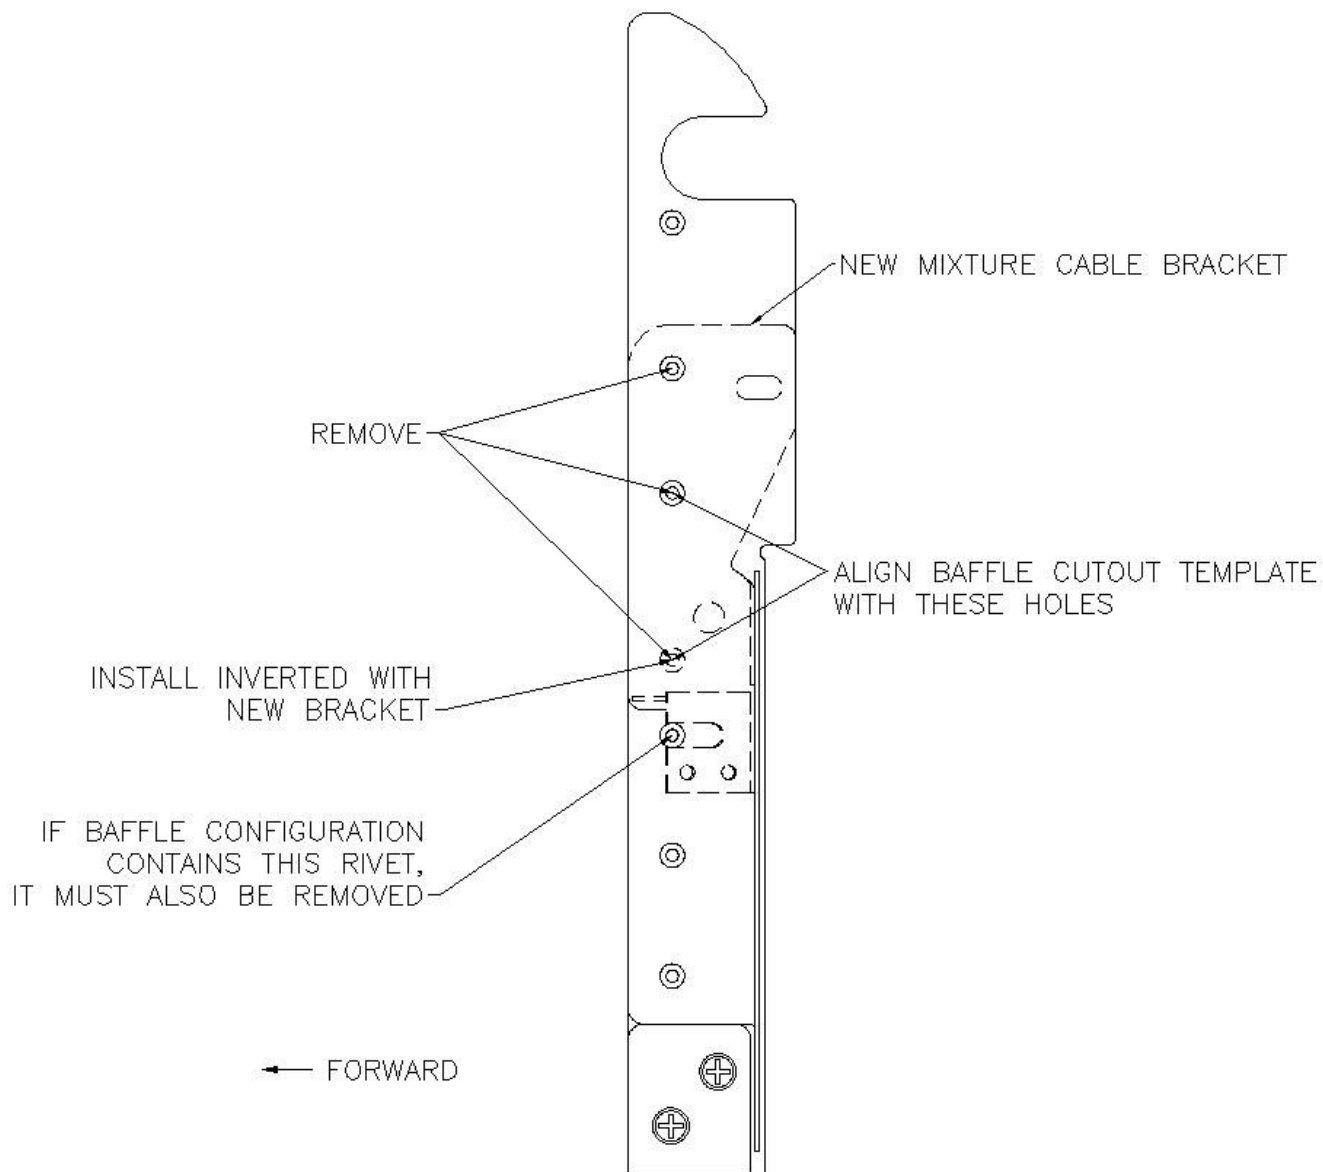

Figure 2: Left-Hand Baffles
- the apron, in addition to the baffle rivets indicated in Figure 2.
- 10.11** Fasten the new mixture cable bracket to the apron baffle assembly using three BSPQ rivets of the appropriate length. Orient the bracket as shown by the dashed line in Figure 2. Align the slot and the large hole in the bracket with the two holes used to fasten the original mixture cable bracket. Install the two inboard rivets from the top side of the bracket, with AN960-4 washers on the underside of the apron. Install the outboard rivet from the underside of the apron (See Figure 2). The inverted rivet does not require a washer.